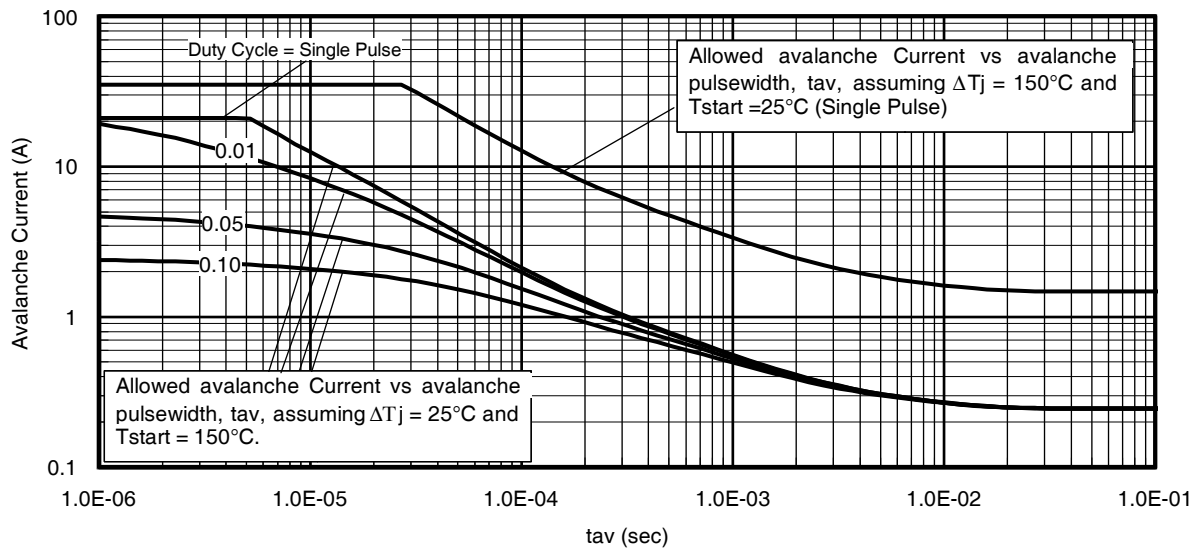

Fig 14. Typical Avalanche Current Vs. Pulsewidth
- ① Repetitive rating; pulse width limited by max. junction temperature. ④ $R_{\theta J}$ is measured at T_J of approximately 90°C .
② Starting $T_J = 25^\circ\text{C}$, $L = 0.51mH$, $R_G = 25\Omega$, $I_{AS} = 21A$. ⑤ Limited by T_{jmax} . See Figs. 14, 15, 17a, 17b for repetitive avalanche information
③ Pulse width $\leq 400\mu s$; duty cycle $\leq 2\%$.
Notes on Repetitive Avalanche Curves , Figures 14, 15:
7. ΔT = Allowable rise in junction temperature, not to exceed T_{jmax} (assumed as 25°C in Figure 14, 15).